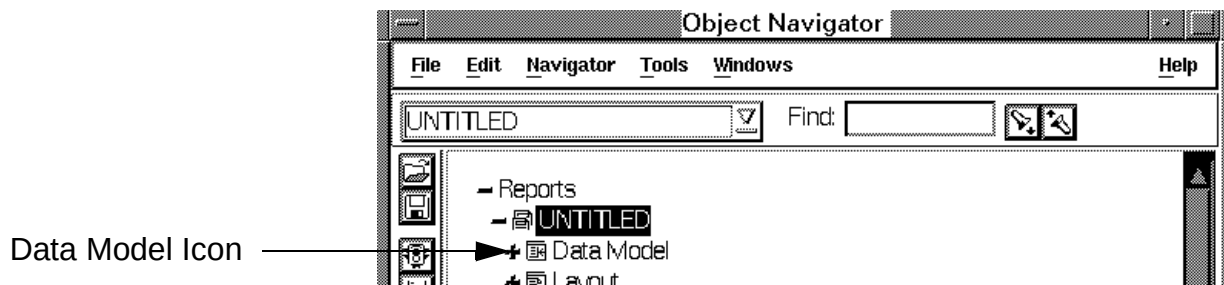

Figure 3-10. Data Model Icon
1. Double-click on the Data Model Icon, Figure 3-10.